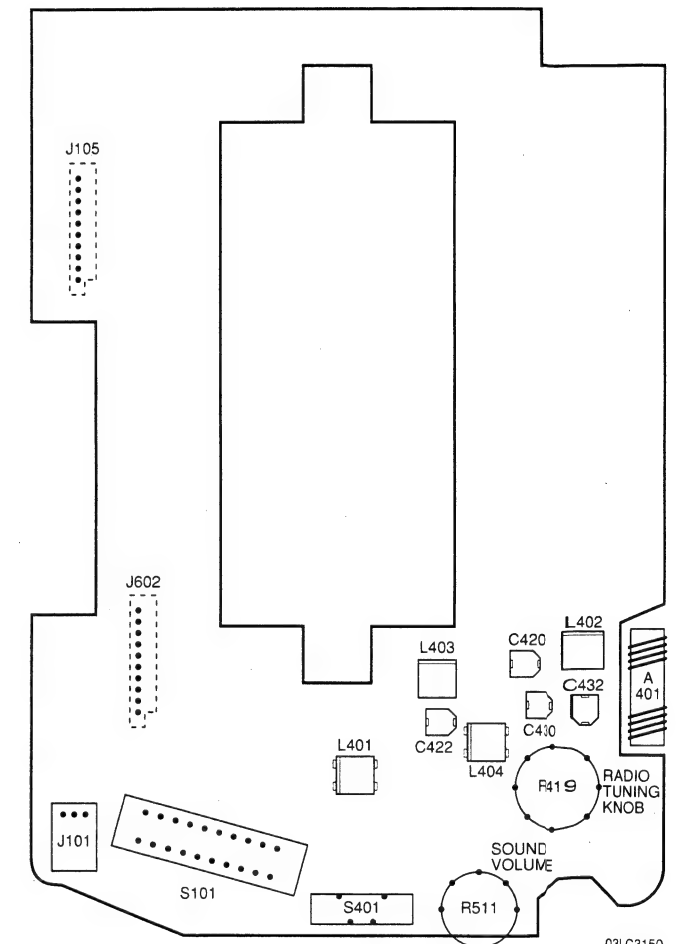

Fig. 7.4
2. Adjustments to the radio Part (See Fig. 7.4)